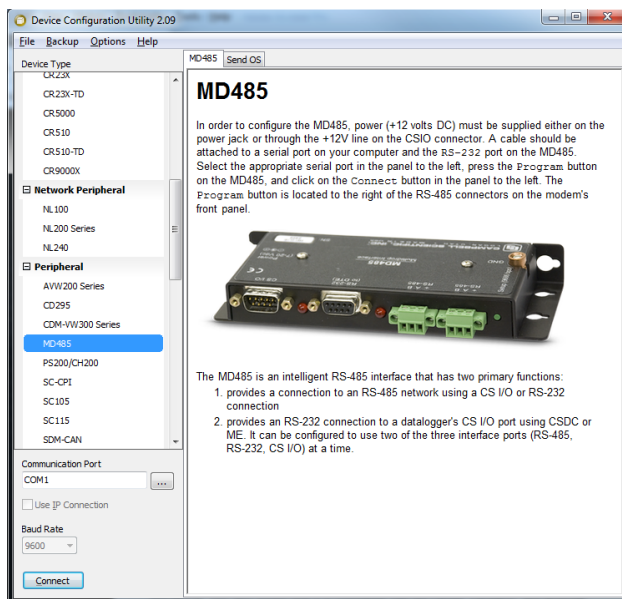

FIGURE 8-12. MD485 Device Configuration screen
3. Open *DevConfig*. Click **Peripheral**. Select *MD485*. Select the **Communication Port**. Push the **Program** button on the MD485. Click **Connect**. The program button is located to the right of the RS-485 connectors on the modem's front panel (FIGURE 8-12).